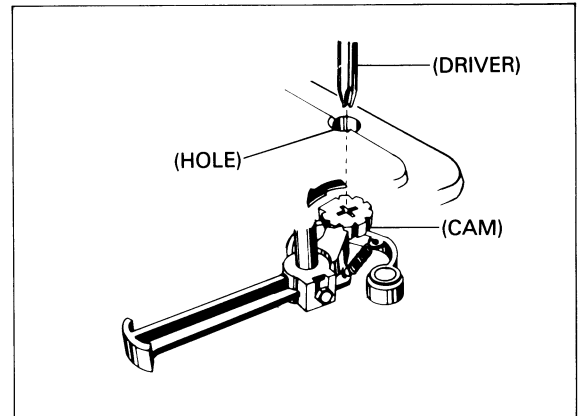

Fig. 5-2
2. AUTO RETURN ADJUSTMENT (Refer to Fig. 5-2)